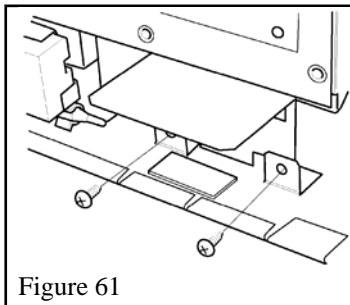

Figure 61
4. Refit the battery shield with the two screws previously removed – Figure 61. *This shield is not needed if wall switch is installed.*